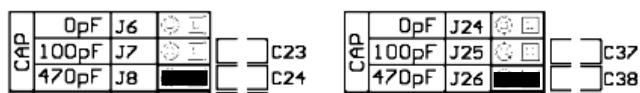

Figure 5: Left and right channels set to a 470pF capacitance load
Typically, capacitance loading adjustments will only impact the sonic performance of a MM cartridge. We recommend that when using a MC cartridge, you should set the capacitance load to 0pF by placing the supplied jumpers into sockets J6 and J24, respectively for the left and right channels. In the event that you're using a MM cartridge experiment with the three (3) available loads, selecting the load that provides the best possible sound quality. For example, if you decided on using the capacitance setting of 470pF, then you would insert the supplied jumpers into sockets J8 and J26 (refer to figure 5 below).